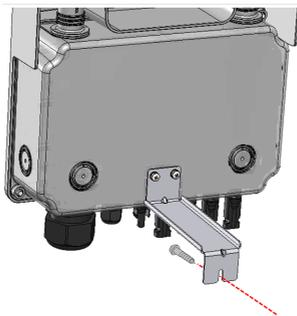

Figure 13: Securing the DC Safety Unit to the wall
4. Mark the location of the drilling hole required for the screw that secures the bracket of the DC Safety Unit to the wall (See *Figure 13*) and remove the inverter from the wall.